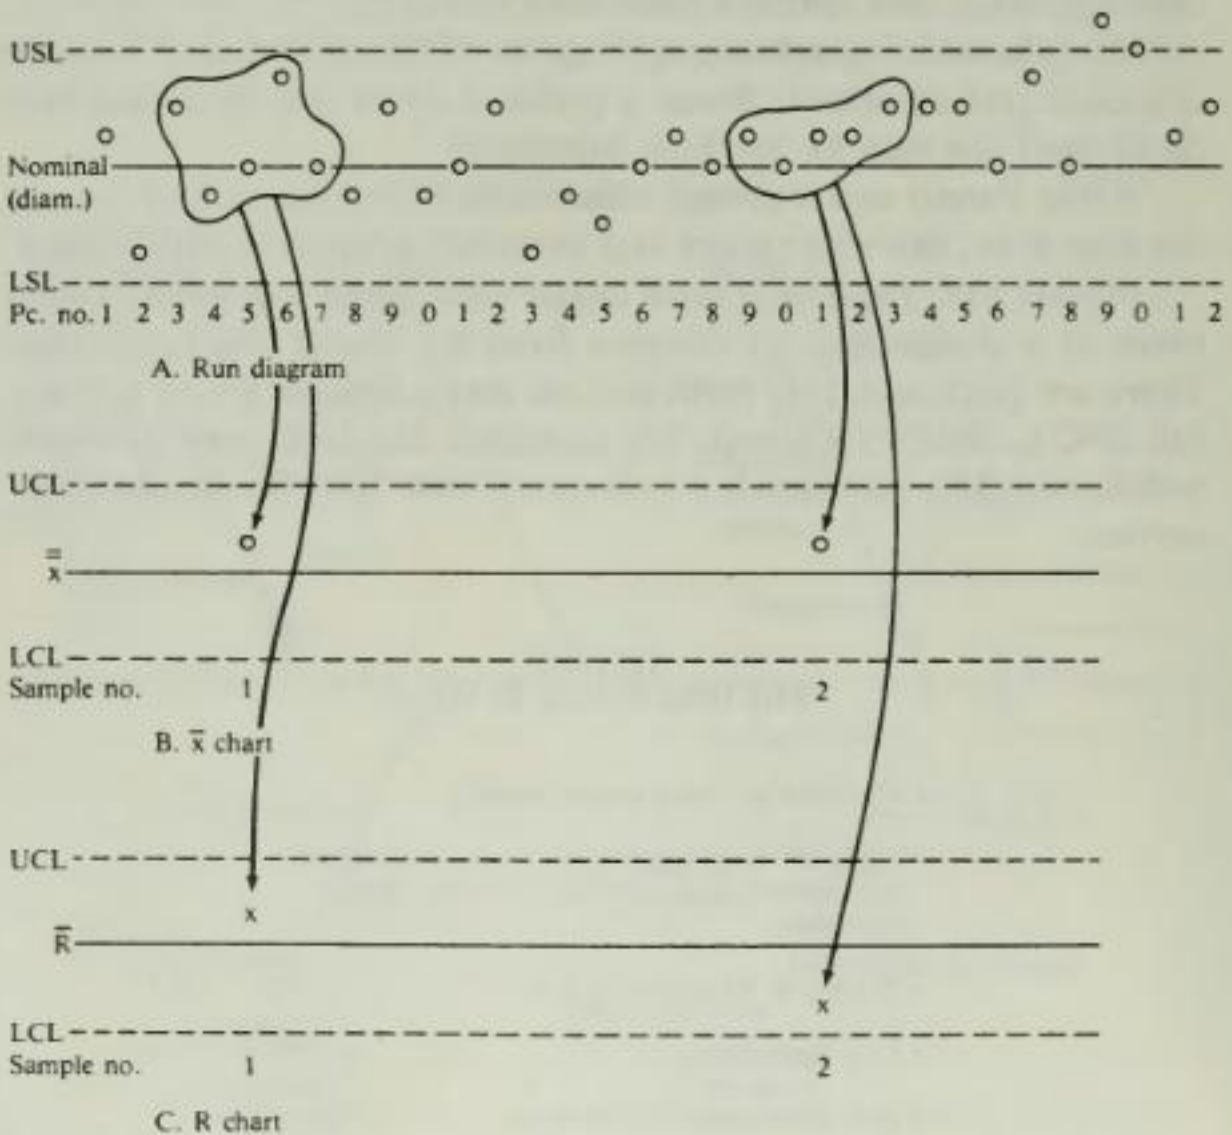

Figure 7-5. Run Diagram and SPC Charts
Quick-and-dirty no. 1 is the *run diagram*. It is a chart of individual measures, whereas full SPC plots averages of samples on \bar{x} and R charts. Figure 7-5 shows a segment of a run diagram and an SPC pair. Arrows between the run diagram and the SPC charts show how an occasional sample of five measured diameters would plot as just two points if the two SPC charts were used instead of the run diagram. One point, the average, goes on the \bar{x} chart, and the other, the range, goes on the R chart.
- The run diagram *seems* to be just a way to sort out the bad ones through 100 percent inspection. The run diagram (Figure 7-5, part A) has the desired diameter as its center line. The top and bottom lines are the customer's upper specification limit (USL) and lower
But wait. The run diagram talks to us, too! The one in Figure 7-5, part A, tells us the process is straying off on the high side. In fact about the last half of the diameters are at center line or above, and the twenty-ninth went over the limit. The run diagram does not talk in a statistical language, and thus it could falsely alarm or lull us once in awhile. Still, it is easy to understand and requires no staff statistician.